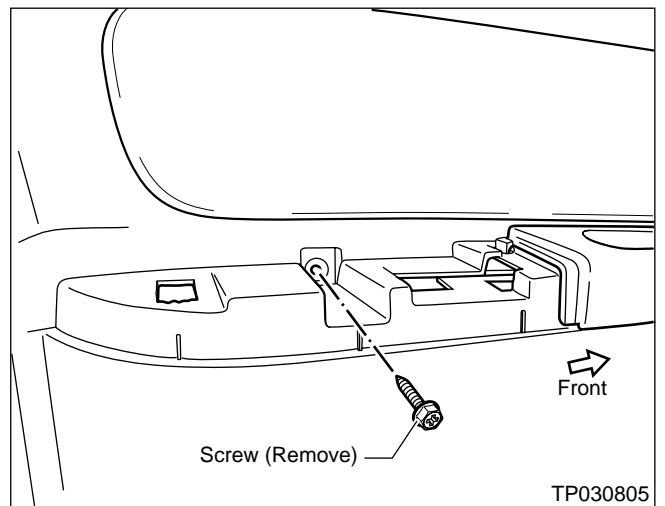

Figure 26
4. Remove the Screw under the Arm Rest Pad (see Figure 26).